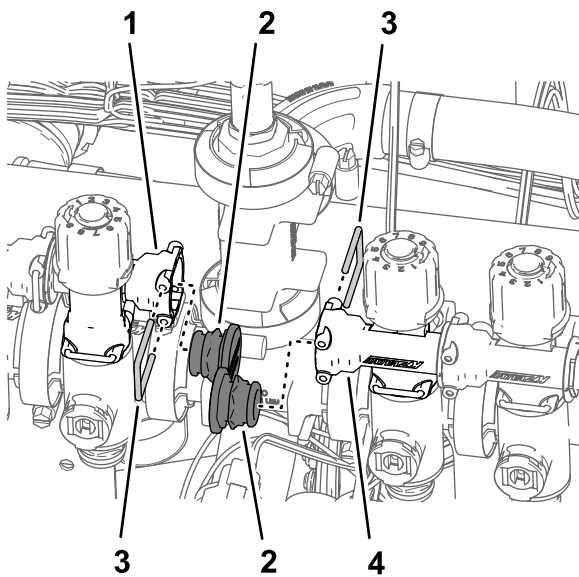

Figure 99
3. Remove the retainers that secures the plugs in the sockets of the quick disconnect fitting at the nozzle valve 5 and nozzle valve 6, and remove the plugs (Figure 99).